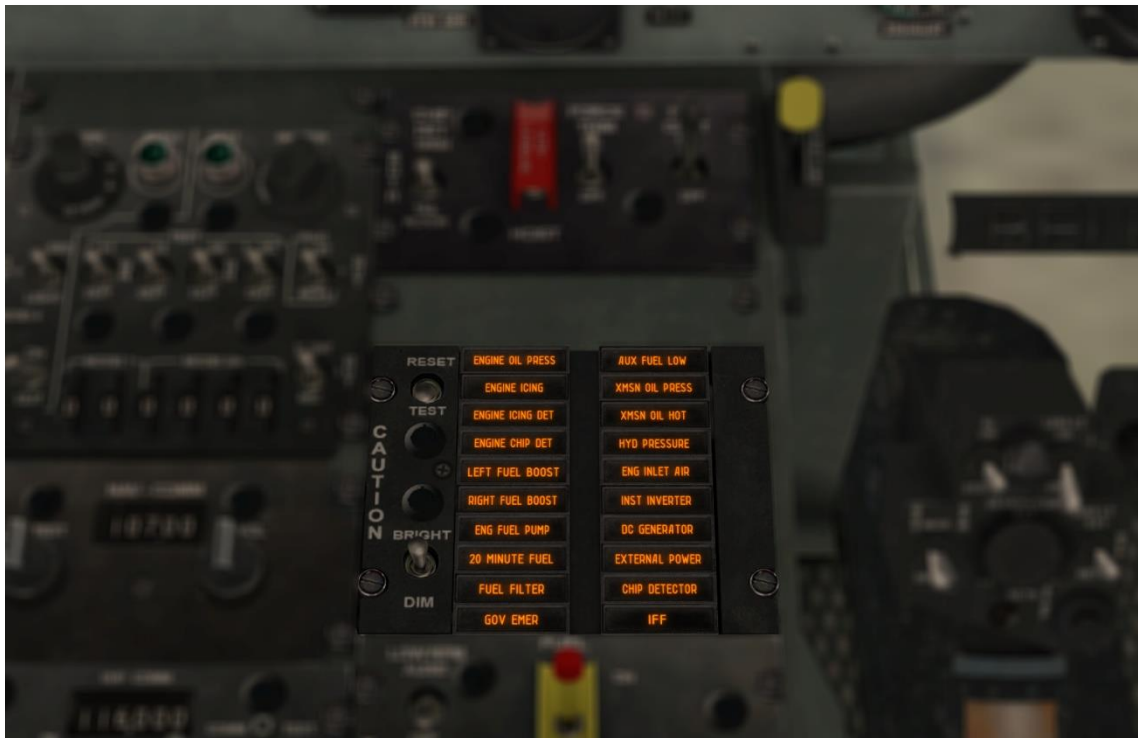

Figure 5.2. CAUTION panel location.
- (1) Follow all procedures used for visual flight conditions, except the "Master Caution", "Low RPM", and "Fire Warning" flip-filters and "Caution Panel" slide drawer filter must be placed over the indicators.
- (2) Flip instrument panel indicator filters over indicators and press lightly in place to avoid light leakage around edges.
- (3) Gently pull the slide drawer filter up from stowed position until it is at the top vertical position and place it over the caution panel.
- c) Caution panel. The CAUTION panel is located on the pilot side of the pedestal (Figure 5.2). Worded segments illuminate to identify specific fault conditions. The worded segments are readable only when the light illuminates. When a light illuminates, flickers or full illumination, it indicates a fault condition. Refer to Caution Lights Panel for explanation of the fault conditions.